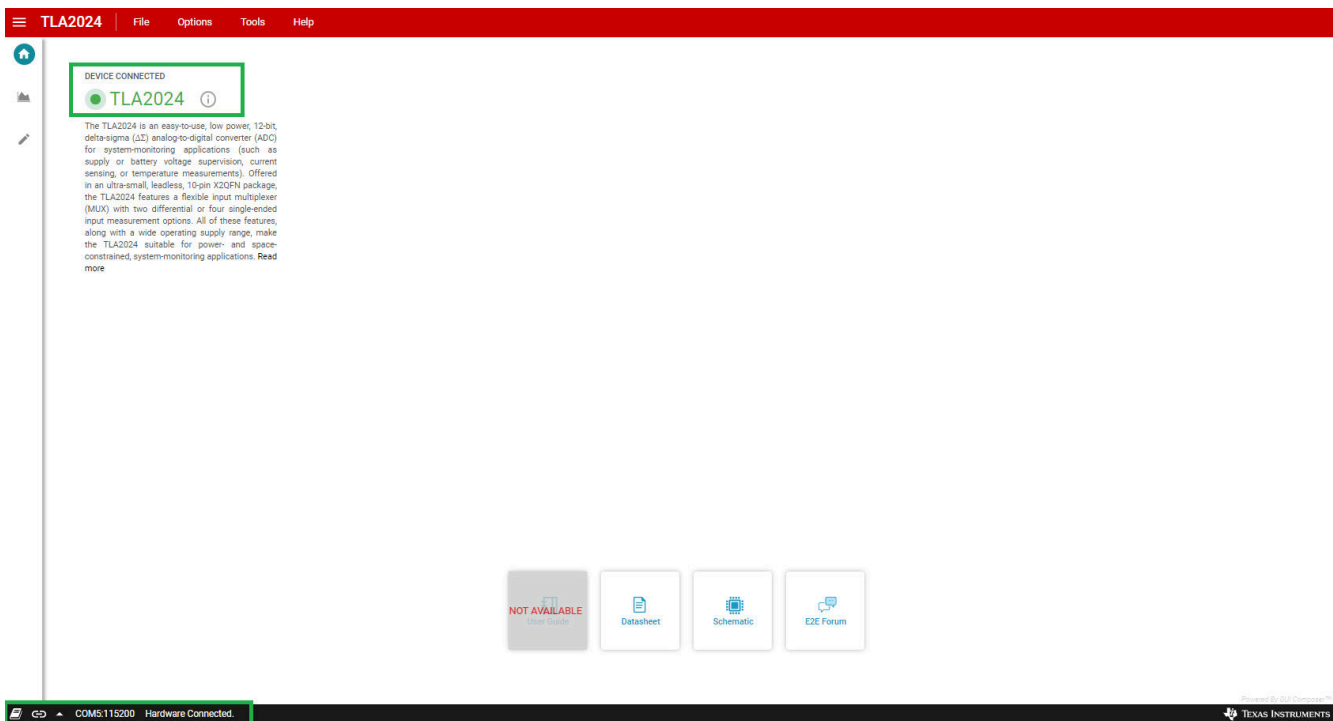

Figure 5-3. TLA2024 EVM Connected GUI
4. Refresh the GUI. The GUI should connect to the hardware. A green signal displays, and the *Hardware Connected* indication shows on the bottom (see Figure 5-3).